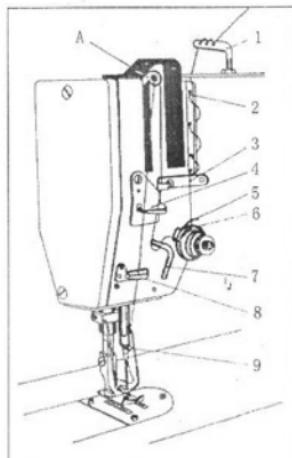

Fig. 8
**17. To thread upper thread(Fig.8)**
Then threading as shown in Fig.8.